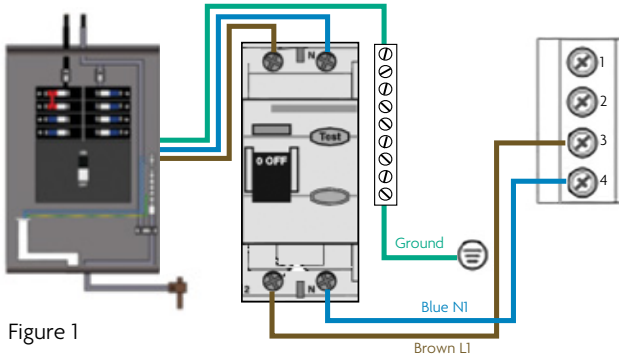

Figure 1
1. Remove all jumper wires as indicated by dotted lines in Figure 1 (previous page).
AS MANUFACTURED – SINGLE SERVICE (Figure 1)